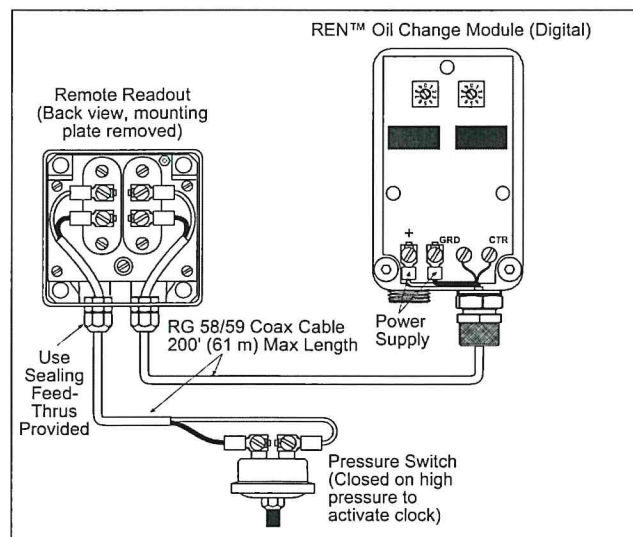

Figure 4 - Typical Wiring for a Dual Readout With Remote Unit
**Step 3** - For connection to the module and clock control, the shield of the cable is connected as shown in Figure 4 and should not be grounded to machinery at more than one point, (multiple grounds can cause spurious signals to be counted and large spurious signals to 30 V positive or negative, but application of these voltages for more than a few minutes can damage the internal battery).